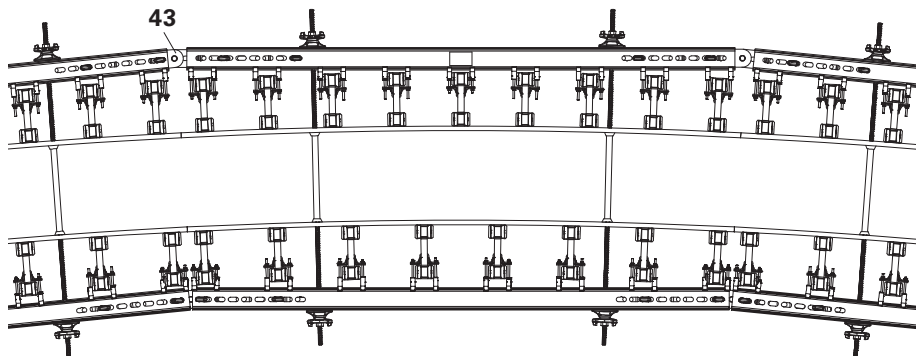

Fig. C2.03
- polygonal circular formwork (Fig. C2.03)